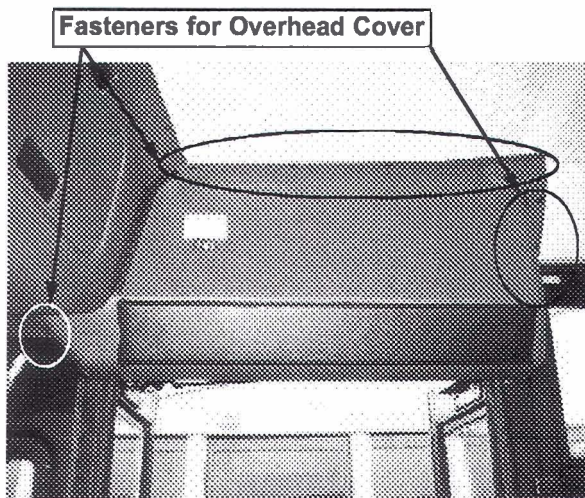
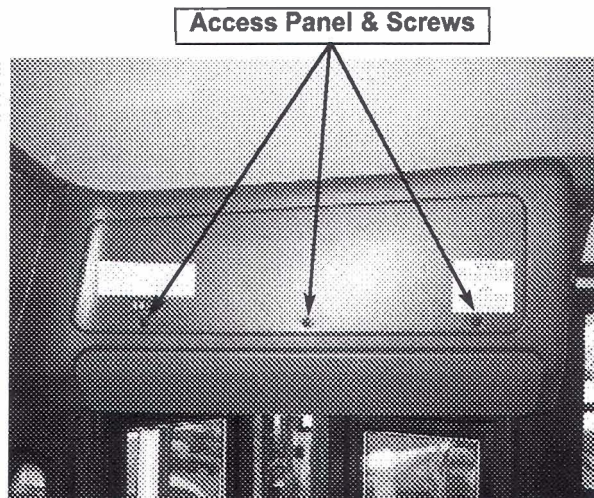

Figure 1 - Built prior to 9/21/09
Figure 2 - Built on or after 9/21/09
2. On units built prior to 9/21/09, remove the entrance door overhead cover. This is done by removing the nine (9) fasteners located at the front, top and rear of the cover. **Figure 1.** On units built on or after 9/21/09, remove the three access panel screws and lower the panel. **Figure 2**